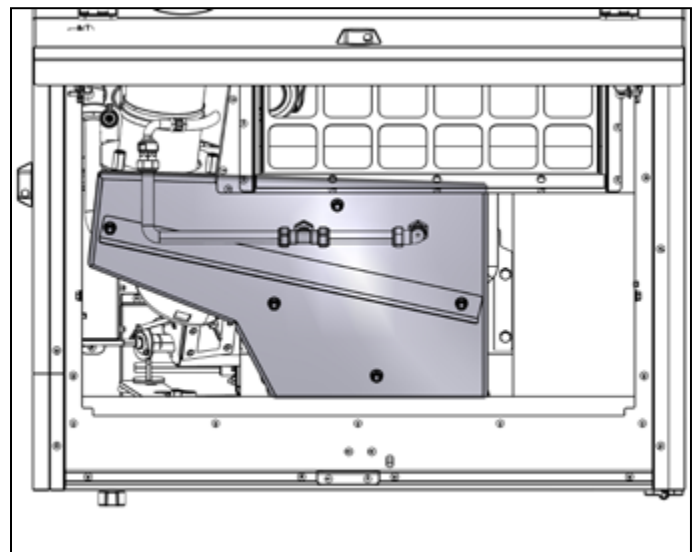

Figure 12-3: Heat exchanger cover
- Unscrew and remove the five nuts (and washers) securing the heat exchanger cover and remove it from the top of the heat exchangers. Refer to Figures 12-3.